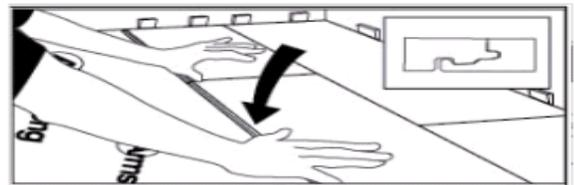

Fig. 14
14. Mark the last piece, cut and install. After all boards in the row are installed, press or walk all boards flat to the subfloor to begin the next row (Fig. 14).